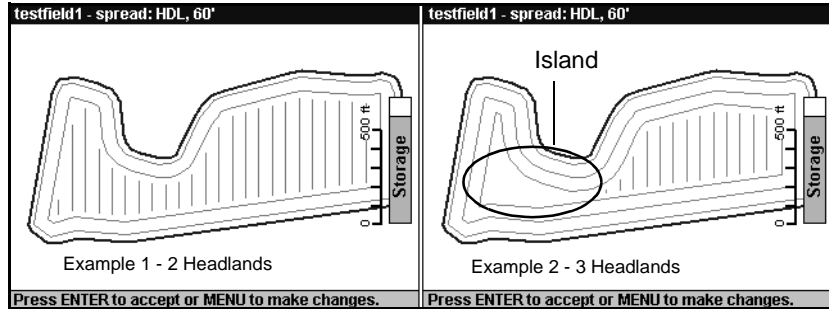

Figure 3.3 Islands
- Parallel swaths are only generated in one island. See Figure 3.3.